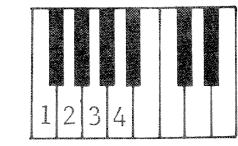

Fig. 23
Note: There are 2 adjustment methods; (1) using test point TP4, etc., and (2) listening to a sound(s) through the OUTPUT jack. Also, CH2-CH4 can be adjusted by listening to the beat sound between channels. Perform these audible adjustments in the NON-ROTARY Key Assign Mode by setting ARPEGGIO to DOWN. For example, in order to produce sounds at CH1-CH4, sequentially hold keys 1 through 4, and release keys 2 and 3. (Fig. 23) If HOLD button remains ON, an extraneous sound will be heard. Turn HOLD button OFF as necessary.